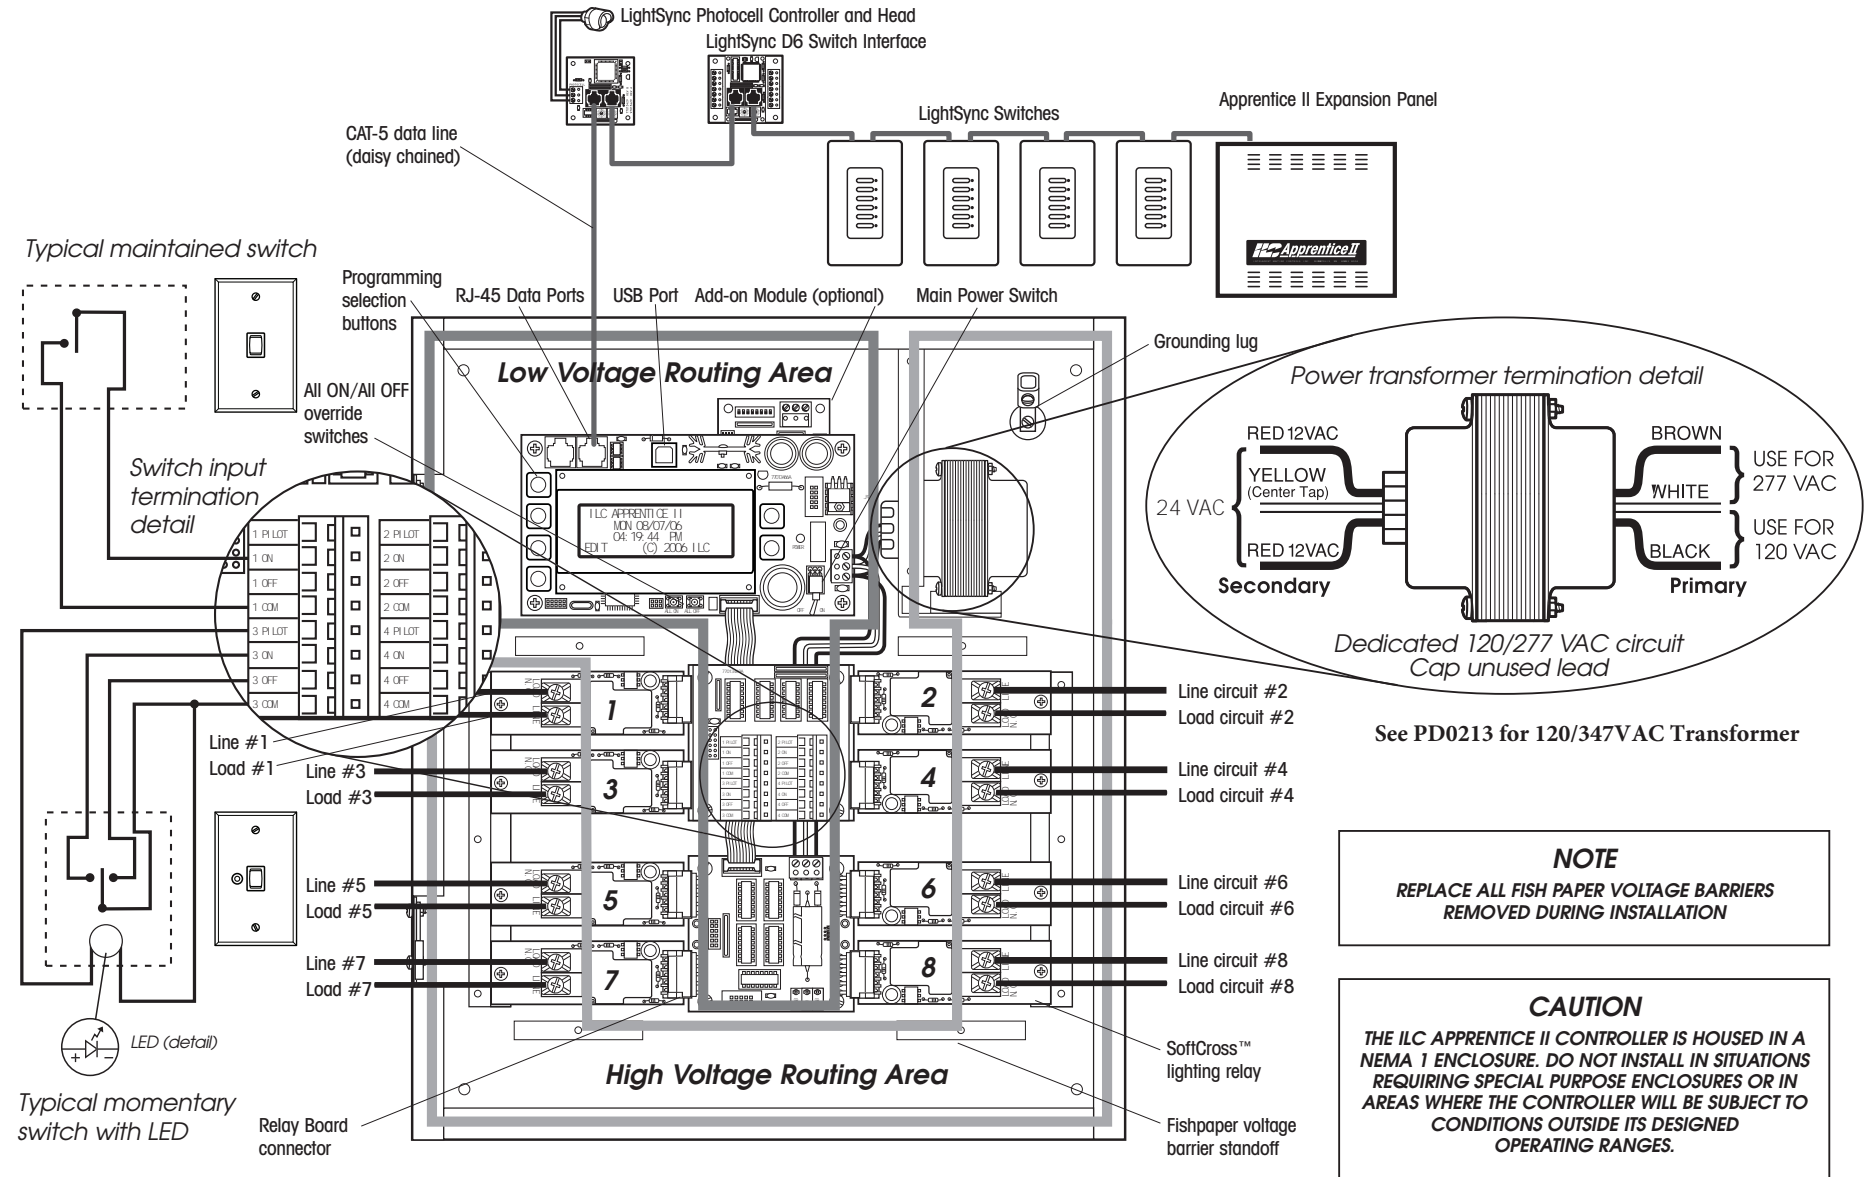

Figure 1 – ILC Apprentice II 08 Installation Detail
Warning: Keep all Low voltage and High voltage wires routed only in designated areas as shown in Figure 1.
- Run a dedicated 120 or 277 VAC circuit including a ground conductor and terminate to the primary connections of the transformer and the ground lug. Cap the unused lead. See Figure 1.
- Power down circuits and remove the line and load wires from the temporary connection and connect the line and load wires as shown in figure 1.
- Terminate as shown in Figure 1 for momentary or maintained switches.
Verify that there is 24 VAC on processor transformer secondary and 12 VAC between each leg and the center tap. (See Figure 1.)
1. Turn the power switch located on the CPU board ON. (See Figure 1.)
3. Verify that both power lights on each I/O board are lit. (See Figure 1.)
Switch all relays ON and OFF, pushing the All ON/All OFF override switches located on the CPU board. (See Figure 1.) Verify that the relay status LED goes ON and OFF and that the relay itself changes state. Verify that the relay controls the proper circuit.
2. Ensure that the Relay Board connector is fully engaged (See Figure 1).